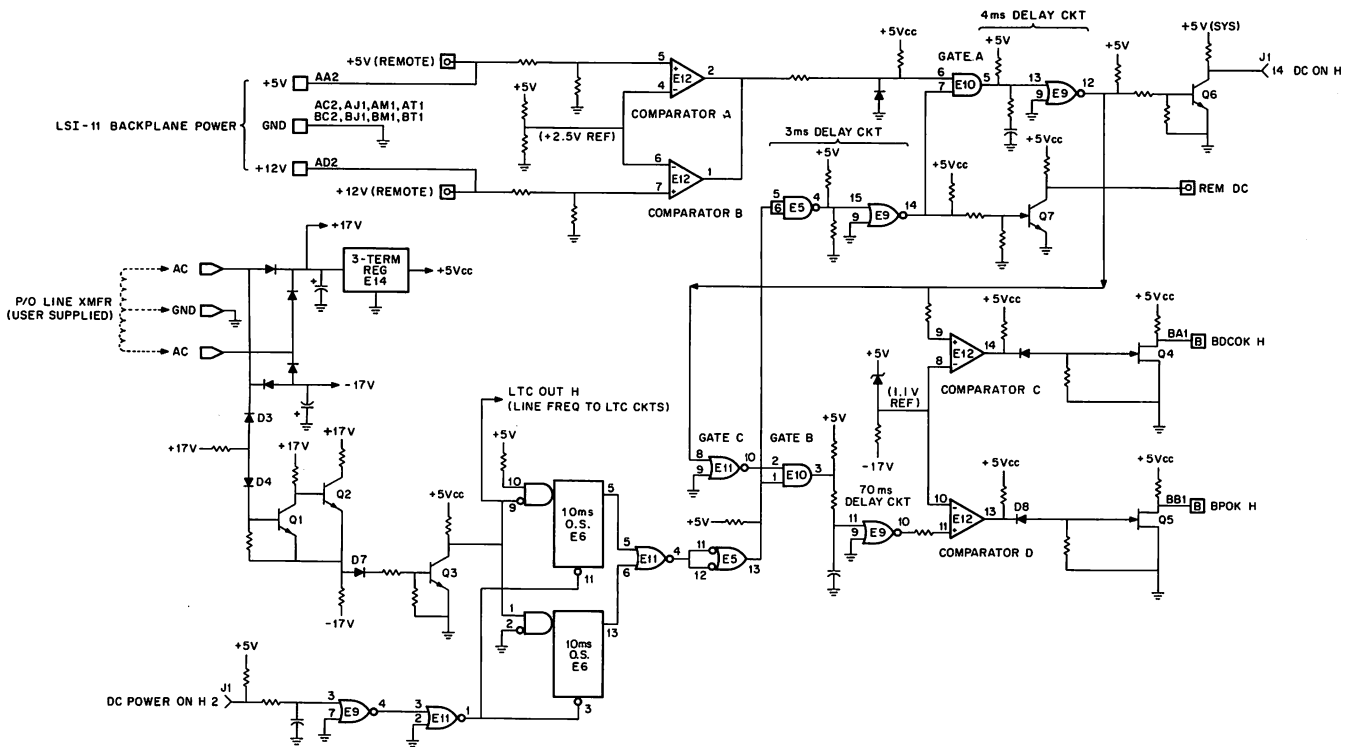

Figure 12. Power Signal Sequence Circuits
**Operating Power**—Power signal sequence circuits are shown in Figure 12. Operating power for these circuits is obtained from the 24 Vac, 50 Hz or 60 Hz input at the two ac terminals and GND. Conventional full-wave rectifiers produce +17 V and -17 V operating voltages for the ac line monitor Schmitt trigger (Q1 and Q2) and a 5 V three-terminal regulator; the regulated +5 V is distributed throughout the power signal sequence circuit for operating power.